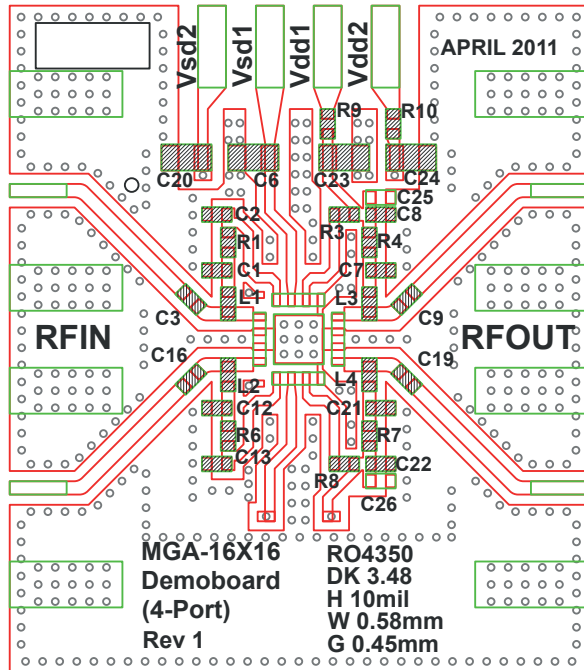
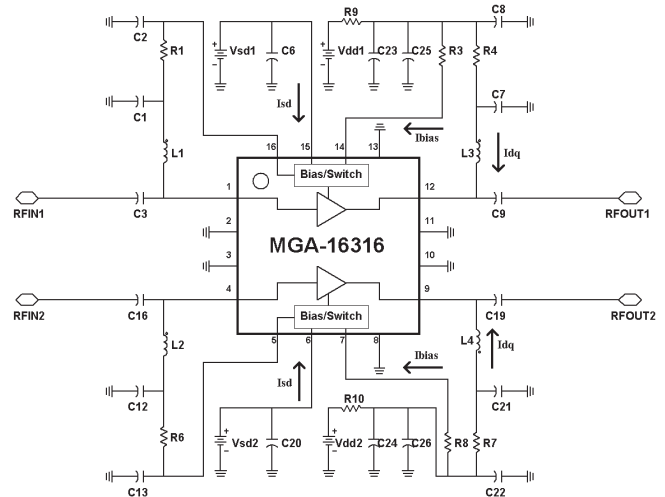

Figure 5. Demo Board Layout Diagram
Figure 6. Demo Board Schematic Diagram
4. Refer to Figure 6 for more details.
7. Bias to each LNA is adjustable using R3 and R8 (see Figure 6). Increasing R3 and R8 will reduce bias current (I_{dd}) and vice-versa.
RF performance at $T_A = 25^\circ\text{C}$, $V_{dd} = 4.8\text{ V}$, $I_{dd} = 53\text{ mA}$, LNA mode, measured on demo board in Figure 5. Signal is CW unless stated otherwise. Application Test Circuit is shown in Figure 6 and Table 1. IIP3 test condition: FRF1-FRF2 = 1 MHz with input power of -20 dBm per tone.
2. Rbias is R3 and R8 from Figure 6.